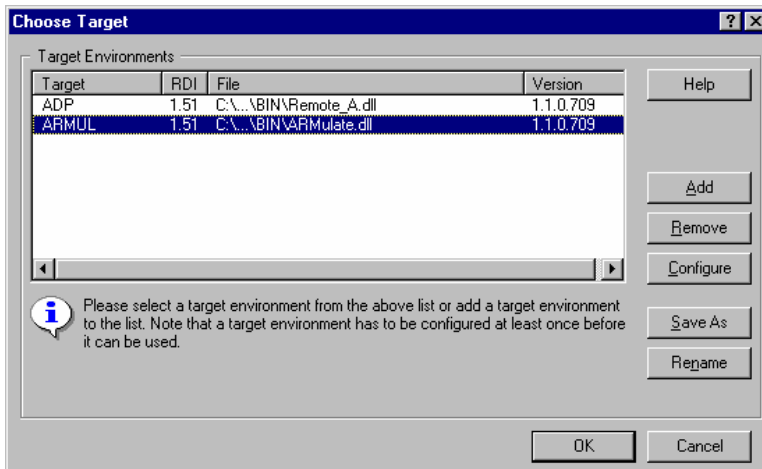

FIGURE 4 Selecting the driver DLL.
2. From the debugger's Options menu, select Configure Target. The Choose Target dialog appears (Figure 4).